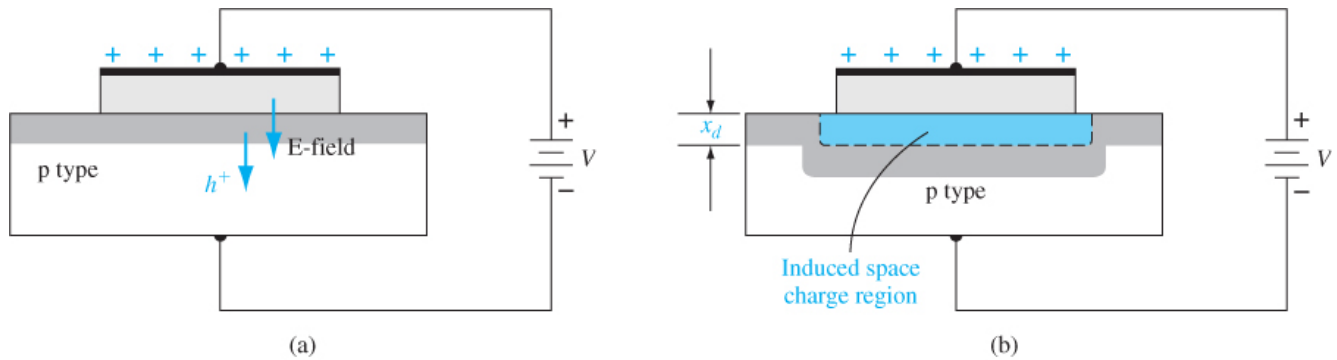

Figure 10.3 | The MOS capacitor with a moderate positive gate bias, showing (a) the electric field and charge flow and (b) the induced space charge region.
What happens if the voltage is reversed on the MOS capacitor as shown in Fig 10.3?
- At steady-state as shown in Fig 10.3(b), an **induced space charge region** or **depletion layer** (w/ N_a^- ions) of width/thickness x_d is formed (not like a parallel plate capacitor).